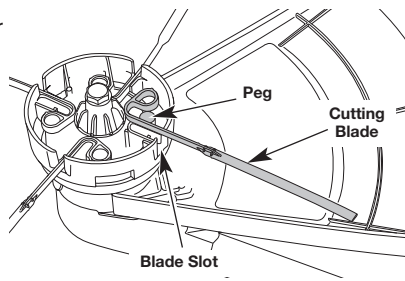

Fig. 14
2. Turn the cutting head over and grab an individual blade near the cutting head and wiggle it up and down until blade comes loose. (Fig. 14)
4. Take the new blade so that the loop at the end is facing away and to the right. (Fig. 14)
5. Place the loop onto the peg and adjust it so that it fits into the slot on the cutting head. (Fig. 14)
7. Repeat steps 4 thru 6 until all 4 blades are in place. (Fig. 14)